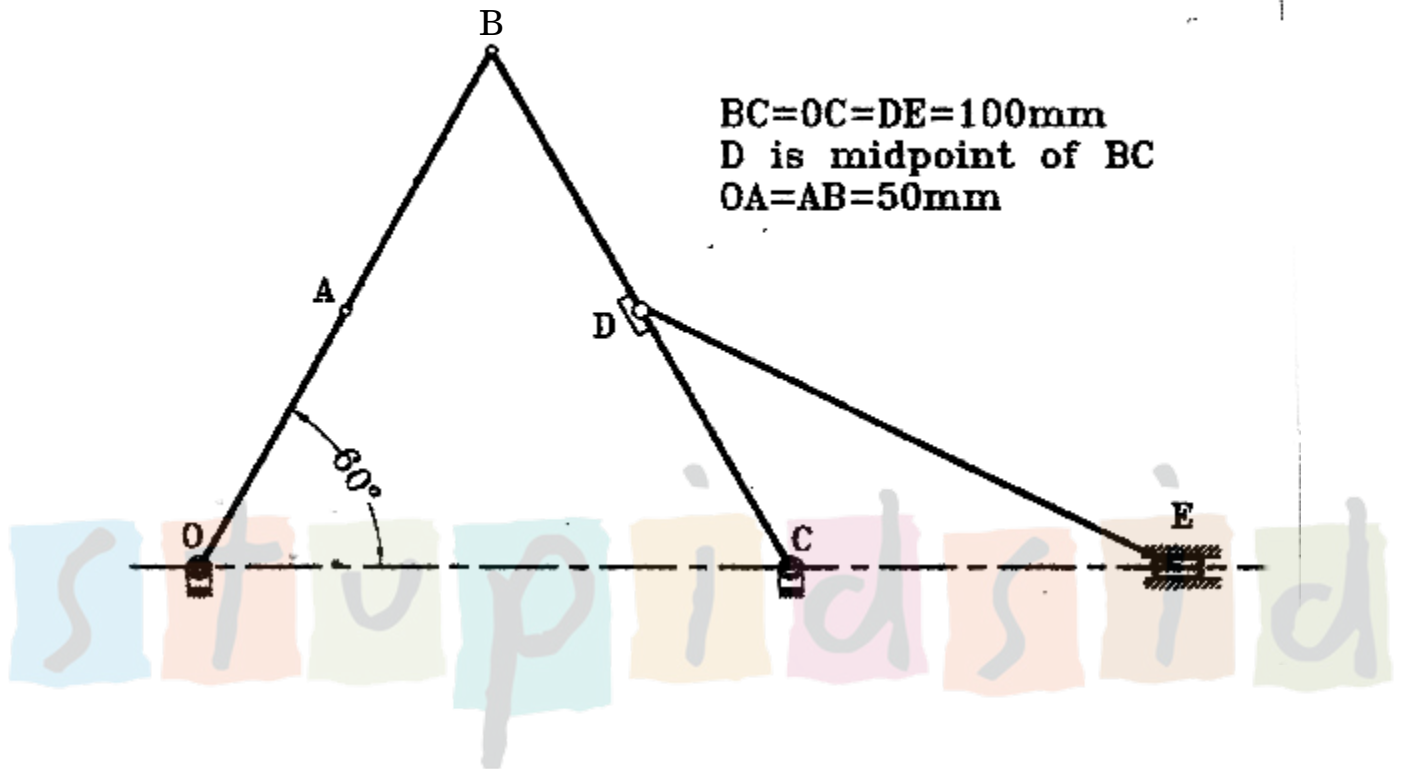

Fig. 4
4. (a) Fig. 4 shows a mechanism in which crank OA is rotating clockwise at 240 rpm. At the instant shown, locate all ICRs for the mechanism and find out the velocity of slider E